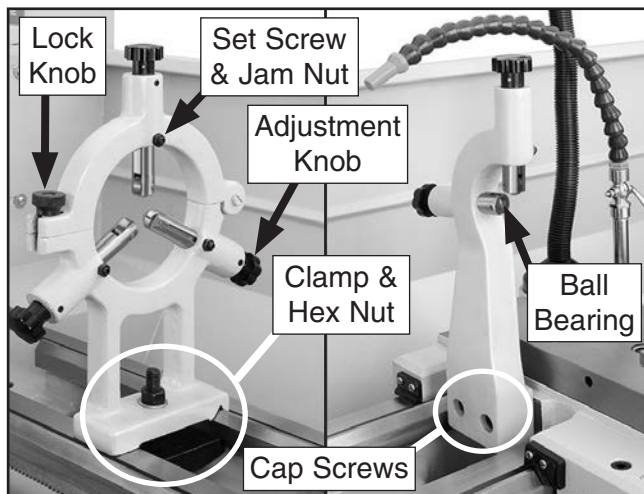

Figure 43. Steady rest and follow rest.
2. Select the required rest (see **Figure 43**) for the operation, and wipe all mounting surfaces clean with a lightly oiled rag.